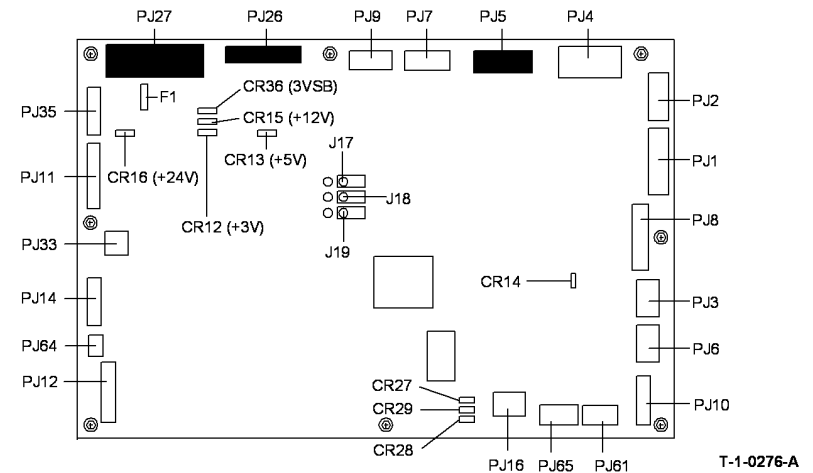

Figure 1 IOT PWB LED and switch locations
- Switch off the machine **GP 14**. Switch on the machine, **GP 14**. Observe the following conditions, **Figure 1**:
- Use the jumpers to short **J17** pins 1 and 2, **J18** pins 1 and 2, **J19** pins 1 and 2, **Figure 1**.